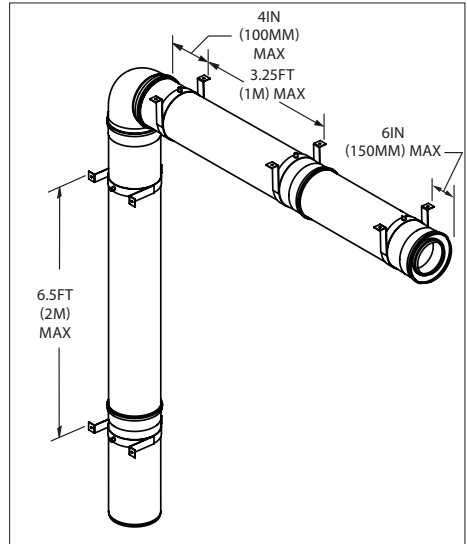

Figure 21
- Vertical vent sections must be supported with Wallstraps every 6.5ft (2m) or less. (**Fig.21**)